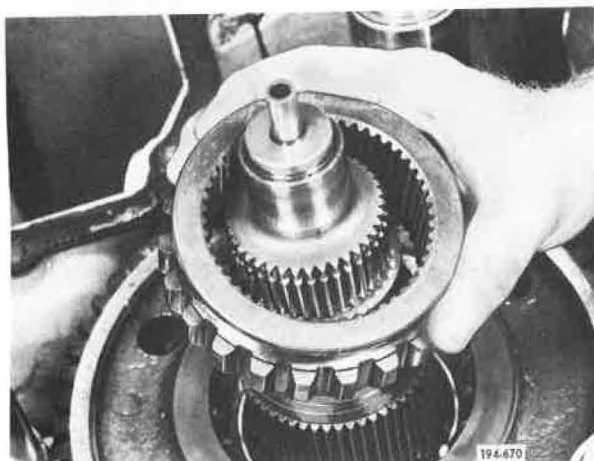

Figure 5-521. Installing Clutch
25. Install first speed gear sliding clutch. See Figure 5-521.